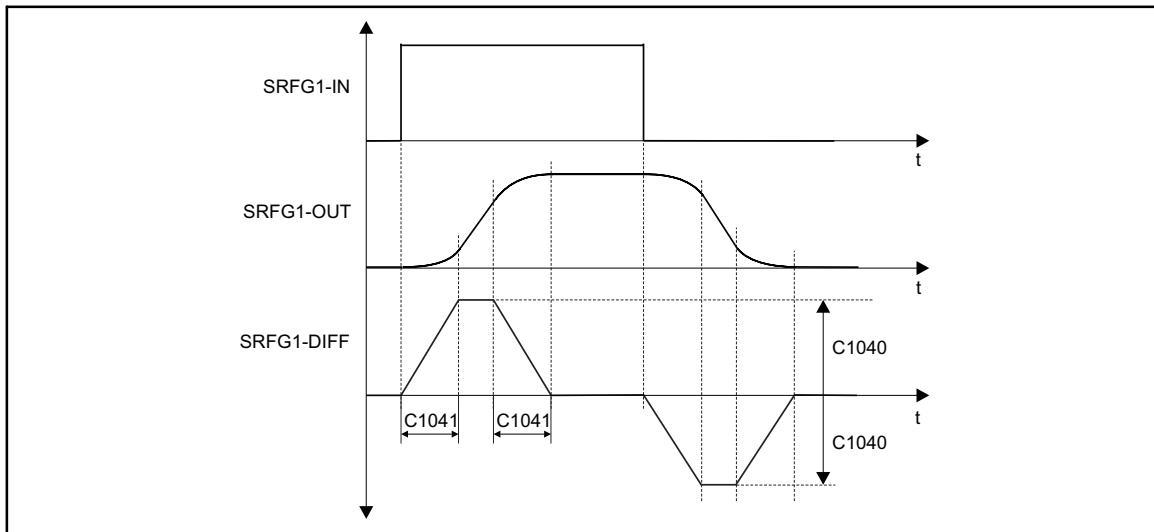

Fig. 2-136
- The acceleration characteristic (signal at SRFG-DIFF) in Fig. 2-136 shows the linear rising or falling of the signal during the rounding time (C1041).